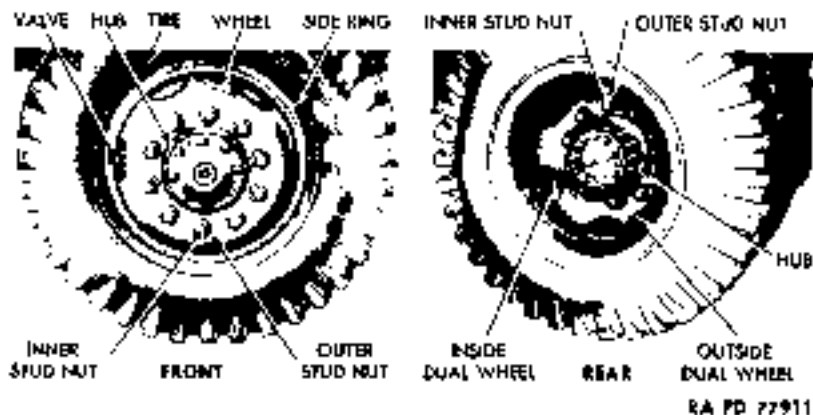

Figure 80 - Front and Rear Wheels
b. Removal (fig. 80). Set propeller shaft brake and block wheels to prevent vehicle from moving. If wheel is mounted singly, loosen the 10 inner and outer stud cap nuts which secure wheel to hub assembly. Using a suitable lifting device, lift wheel clear of floor, and remove the 10 inner and outer stud cap nuts. If two wheels are mounted dually, remove the outer hex head stud cap nuts first, and remove outer wheel; then remove 10 inner stud cap nuts and remove inner wheel.
c. Installation (fig. 80). Position wheel on hub assembly. If wheel is to be mounted alone, install the 10 inner and outer stud cap nuts. If wheels are to be mounted dually, install the 10 inner stud cap nuts, then mount second wheel and install the 10 outer stud cap nuts. Tighten nuts in opposite positions alternately to ensure proper alignment of wheel and hub. Lower wheel to floor, release brake, and remove blocks from wheels.
c. **Removal** (fig. 80). Remove wheel (par. 133). Lay tire flat on floor with valve pointing up, and remove valve core to release air from tire. Remove side ring from wheel as follows: Insert tire iron in groove at end of ring, and pound iron all the way around between ring and wheel. Remove ring, and force tire iron between tire casing and wheel. Pound iron all the way around. **CAUTION: Be careful not to damage valve. Push valve back through opening, remove tire and tube from wheel, and carefully pull flap and tube from tire.**
d. **Installation** (fig. 80). Install tube and flap in tire casing, and install valve core. Partially inflate tube, and check to see that tube is not twisted or buckled and that flap entirely covers exposed side of tube. Position tire on wheel, pull valve through opening, and install side ring. Check valve to see that it does not touch wheel. Inflate tire to proper pressure (subpar. a (2), above). Mount wheel on hub assembly (par. 133).